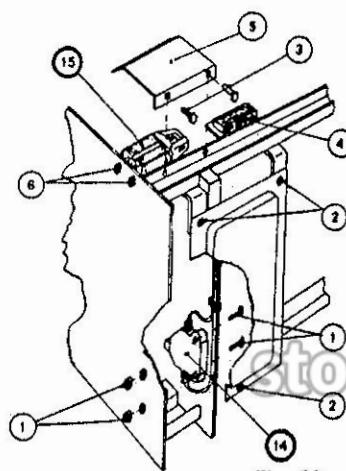

Fig. 30
G. Motor (Fig. 30). To gain access to motor, remove protective cover (5) held by two bolts (3). After removing wires from terminal block (4) and mounting nuts (6), lift motor from gear train. When replacing motor, check to see that clearance exists between pinion and gear. No further adjustment is required after motor is properly aligned.